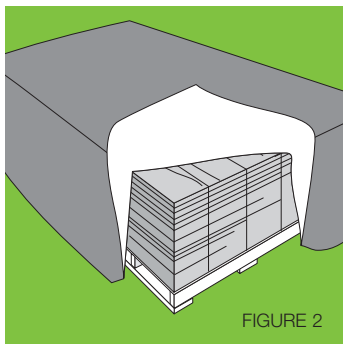

FIGURE 2
- Protected with a waterproof covering, if storage outside is unavoidable (figure 2)